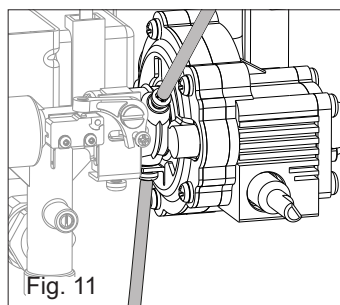

Fig. 11
- Loosen the screws indicated in fig. 11